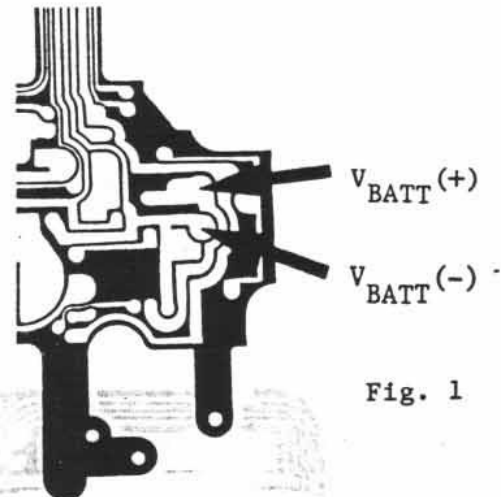

Fig. 1
2. Attach leads to VBATT (+) and (-) and supply 2.1V (Fig. 1).
5. Ground TP1 (Pg. 29, Fig. 1).
1. Ground TP-1 (Pg. 29, Fig. 1).